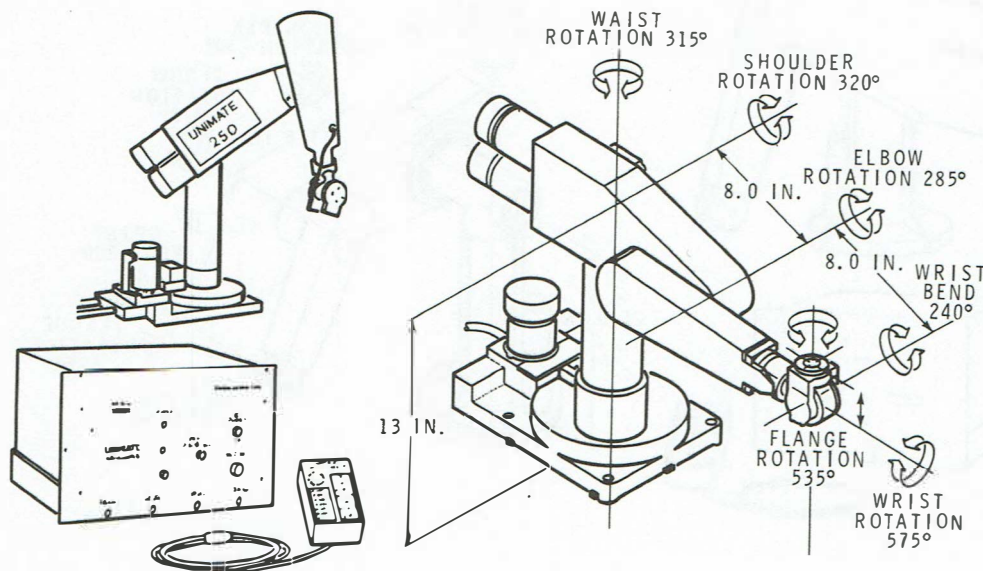

Figure 1-25
**250 Series** — The smallest of the PUMA robot family, the 250, shown in Figure 1-25, has the greatest speed and repeatability. Six degrees of freedom combined with an advanced controller make this unit ideal for medium to high-speed assembly and material handling operations. Light and compact, the 250 series provides the versatility to be rapidly integrated into changing work environments. Its size gives it the capability to either stand on its own or become the flexible arm of an automated assembly system. Some typical applications are: